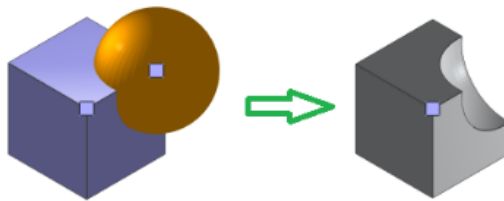

Figure 7.39 Subtract operation
(3) Subtract
a) Subtract B from A: Combine all parts in area A, but remove the part that overlaps the part in B region, as shown in Figure 7.39.